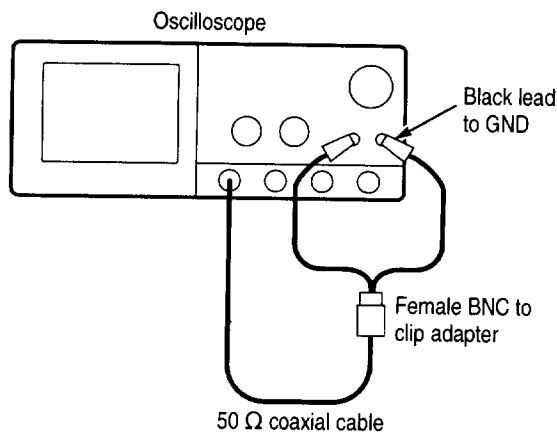

Figure 1–23: Initial test hookup
- Connect one of the 50 Ω cables to **CH 1**. See Figure 1–23.
- Connect the other end of the cable just installed to the female BNC-to-clips adapter. See Figure 1–23.
- Connect the red clip on the adapter just installed to the **PROBE COMPENSATION SIGNAL** on the front panel; connect the black clip to **PROBE COMPENSATION GND**. See Figure 1–23.